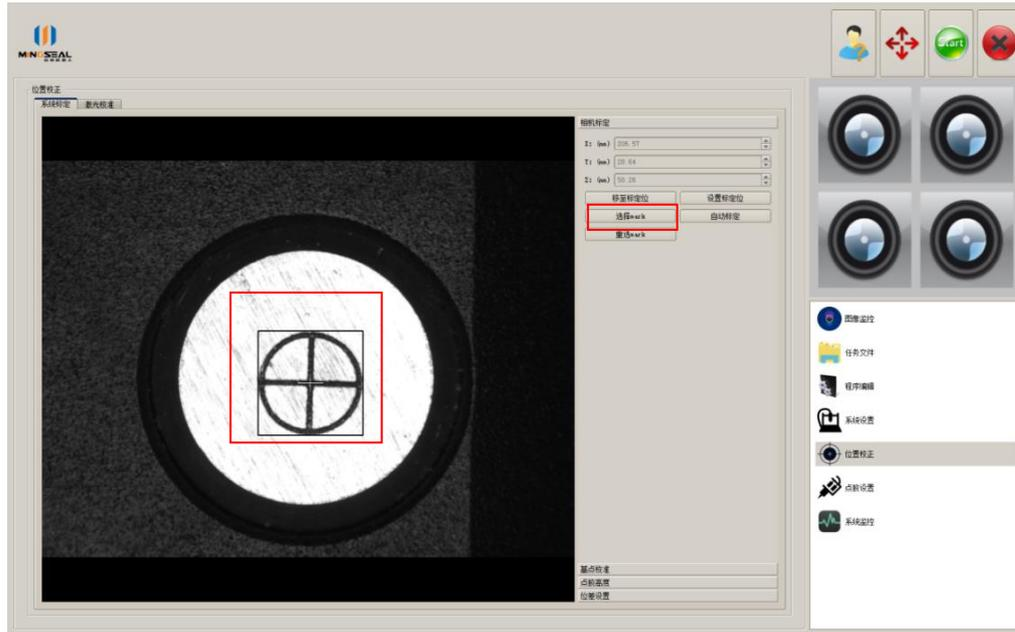

Figure 18 Select Mark figure
2) click the 'select mark' button, then left click the mouse to select Mark figure(near the Mark point center in the left image area), as shown in Figure 18;